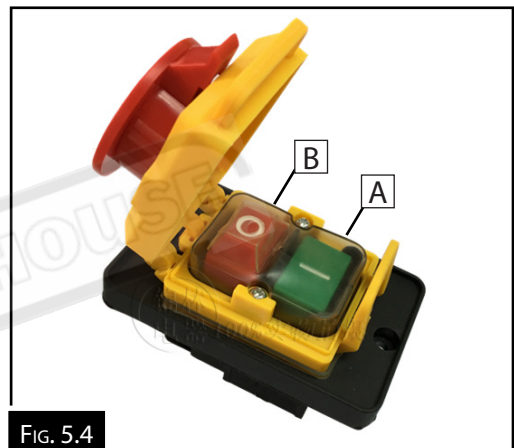

FIG. 5.4
Push the bottom green button (A) to turn the machine ON. Push the top red button (B) to turn the machine OFF. (Fig.5.4)